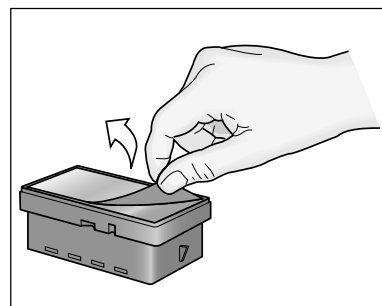
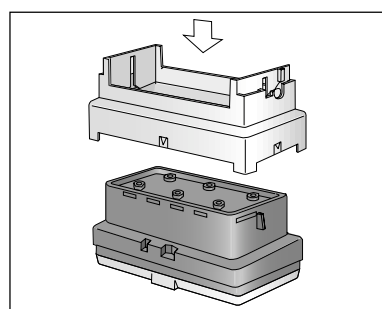
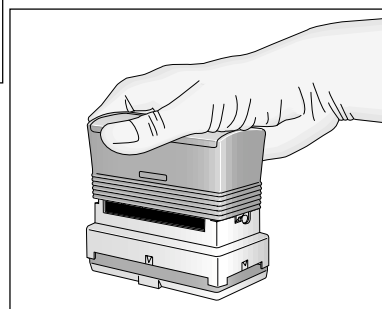

figure 8
figure 9
figure 10
- ❶ Peel off the protective film from the rubber surface of the stamp (see figure 8).
- ❷ With the protective cap covering the surface of the stamp, place the stamp face down.
- ❸ Place the skirt (middle section) over the top of the stamp (see figure 9), and then push it down firmly until the upper edge of the stamp skirt is below the top of the stamp holder.
- ❹ Make sure that the stamp holder moves smoothly up and down in the stamp skirt.
- ❺ Lay the assembled pad on a flat surface. Place the grip or holder over the skirt and push it down firmly. This action will break the ink container inside the stamp (see figure 10).